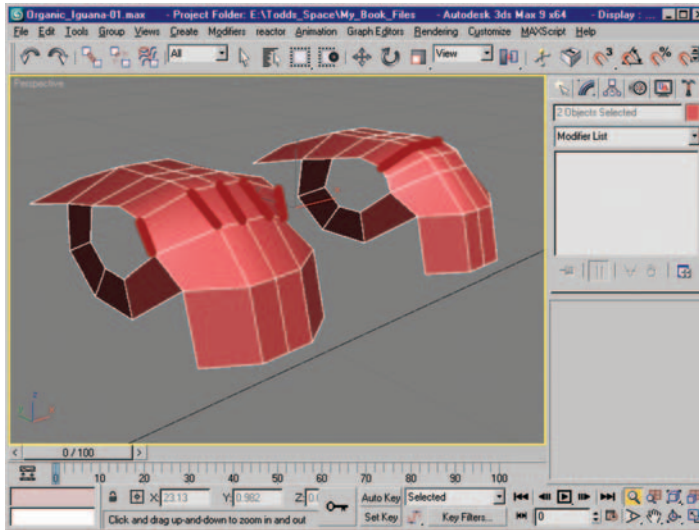

Figure 9.10 Edge selection and resulting new edges after using Connect.
10. Repeat the process in step 8 to create one more additional row of edges (Figure 9.10). Adjust the position of the new edges to match the screen capture. Moving the edges will create a rounder, more “organic” end result.